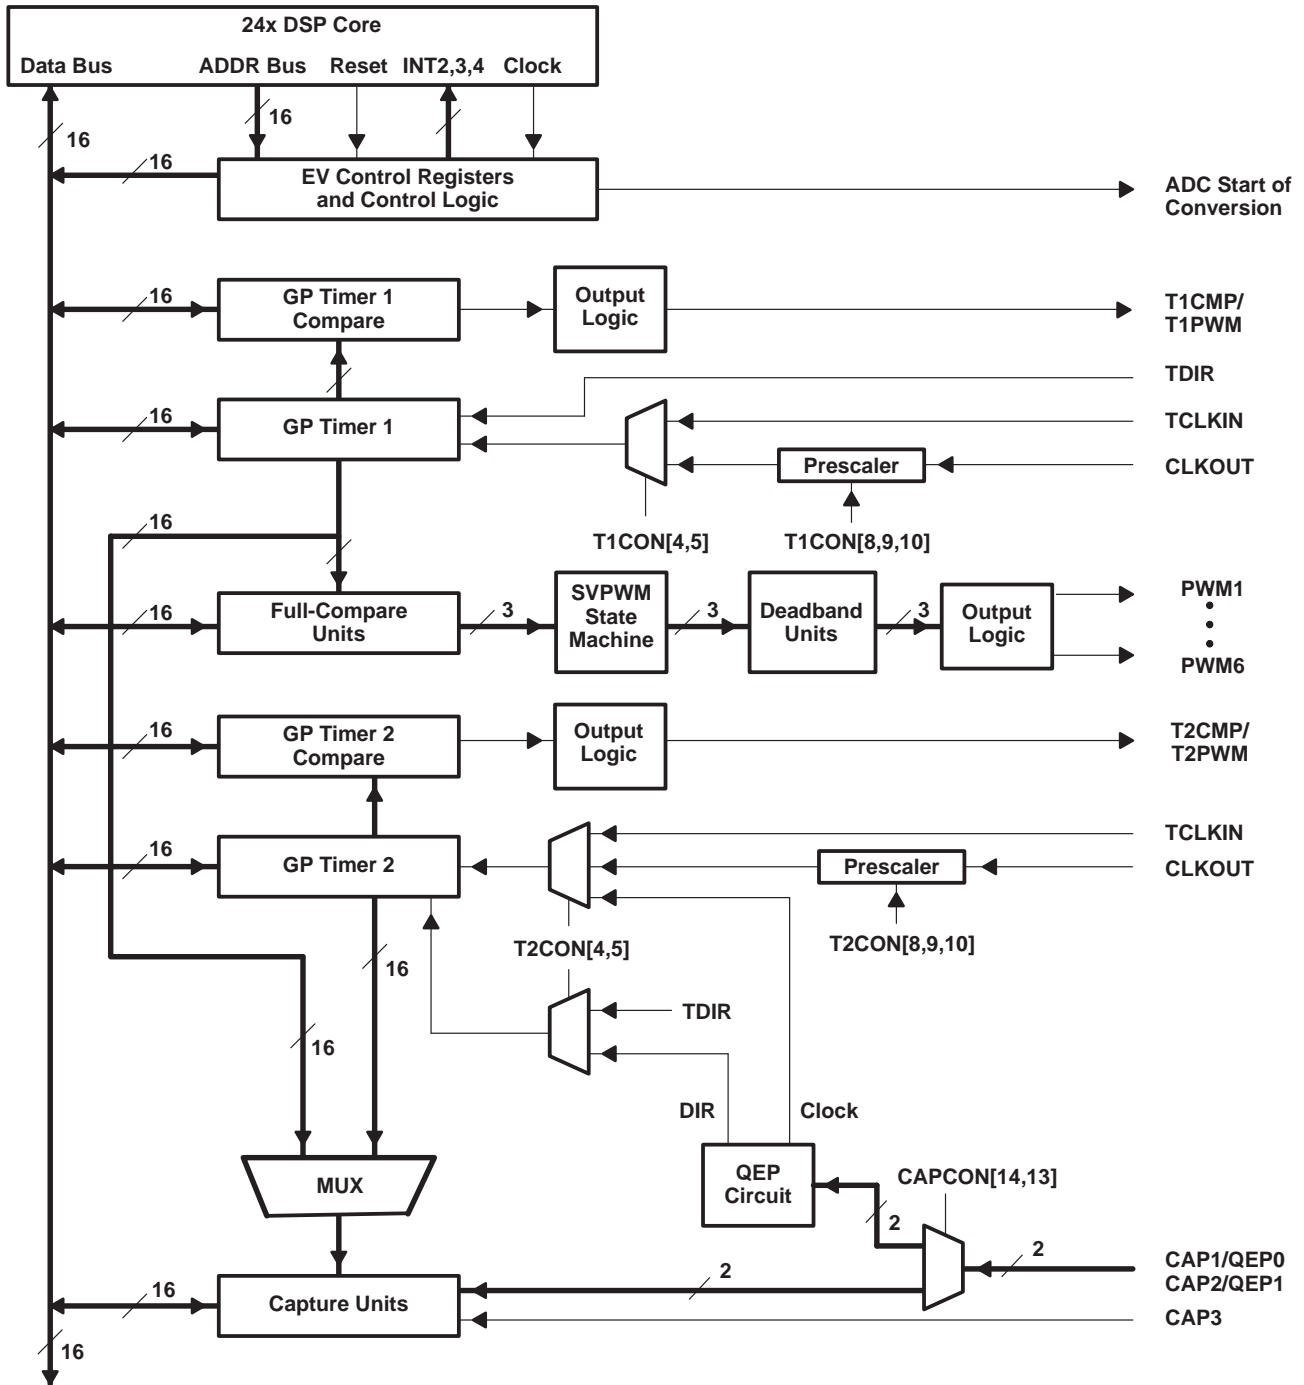

Figure 9. Event-Manager Block Diagram
- Watchdog (WD) timer module
The event-manager module includes general-purpose (GP) timers, full compare/PWM units, capture units, and quadrature-encoder pulse (QEP) circuits. Figure 9 shows the functions of the event manager.